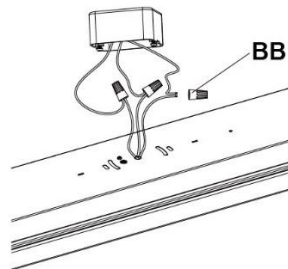

Figure10
3. Remove the heat shrink tubing wrap from the ends of the black, white, and green wires in order to expose the copper wires prior to connecting the AC wires to the corresponding wires (BLACK to BLACK, WHITE to WHITE and GREEN to GREEN) in the junction box and secure using wire nuts (Part BB). (Figure 10)
**NOTE:** For proper connection, place the wire nuts (BB) over wires and twist clockwise until tight. (Figure 10)